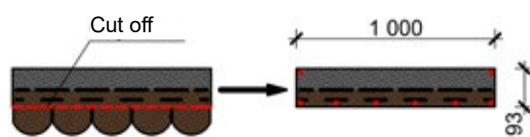

Fig. 17. Diagram of making eaves shingles from regular ones and the location of the nails.
7.1.6 For the EUROPA and EURASIA series, the starter/ridge shingles of other series can be used (the color may differ), it is also allowed to make eaves shingles from regular shingles by cutting off the tabs (Fig. 17).